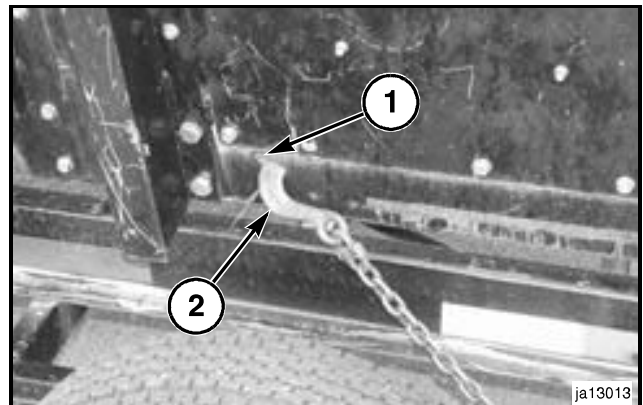

FIG. 31
FIG. 31: One lower center rear tie-down slot (1) is located on either side of center just outside of the feed house opening. Insert grab hook (2) into lower frame slot as shown in FIGURE.